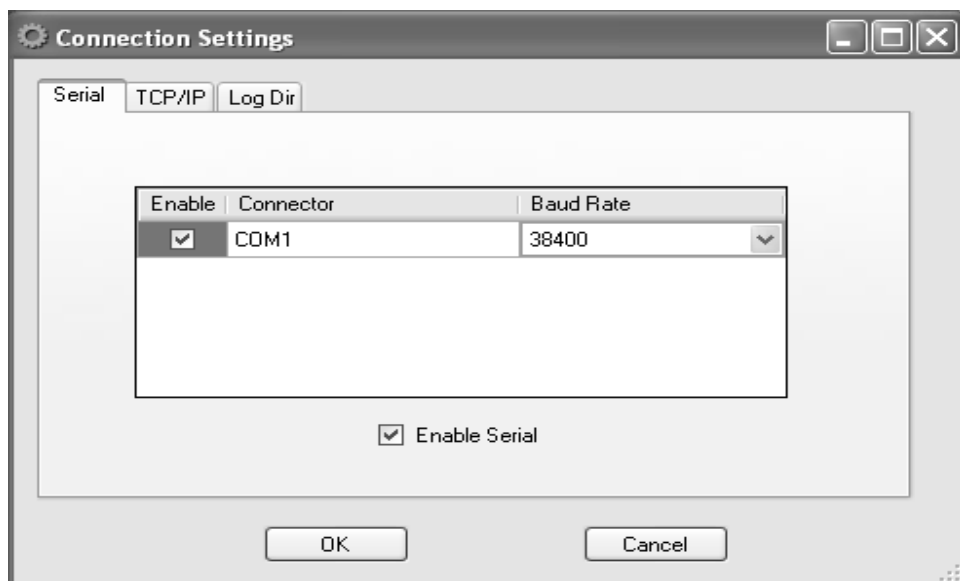

Fig. 2-4. Screenshot of 'Serial' selection in the Connection Settings dialog box
4. Click the 'Main' menu of the UGA software, and select 'Connection Settings'. The following dialog box will appear as shown in Fig. 2-4